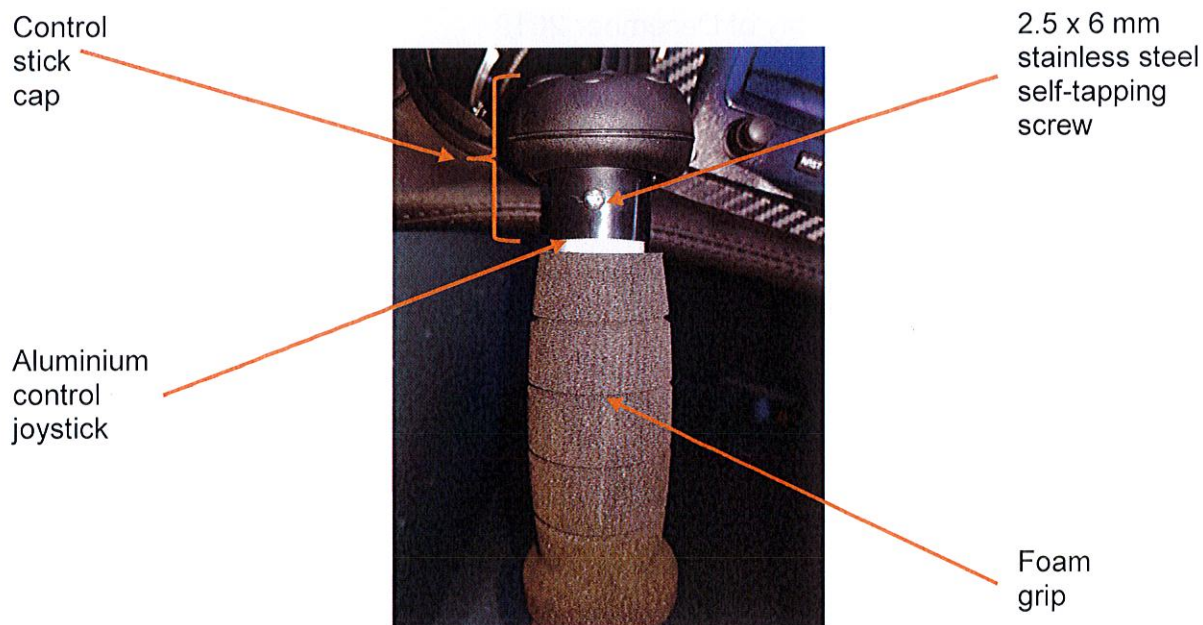

Figure 1: Control stick cap
- RECOMMENDATION:** To confirm that the control stick cap is fastened onto the joystick with a self-tapping screw, slide the foam grip down along the joystick (or push down if foam is too tight) until the sheath of the control stick cap is exposed as shown in Figure 1. Should the screw be absent, a self-tapping screw must be installed.